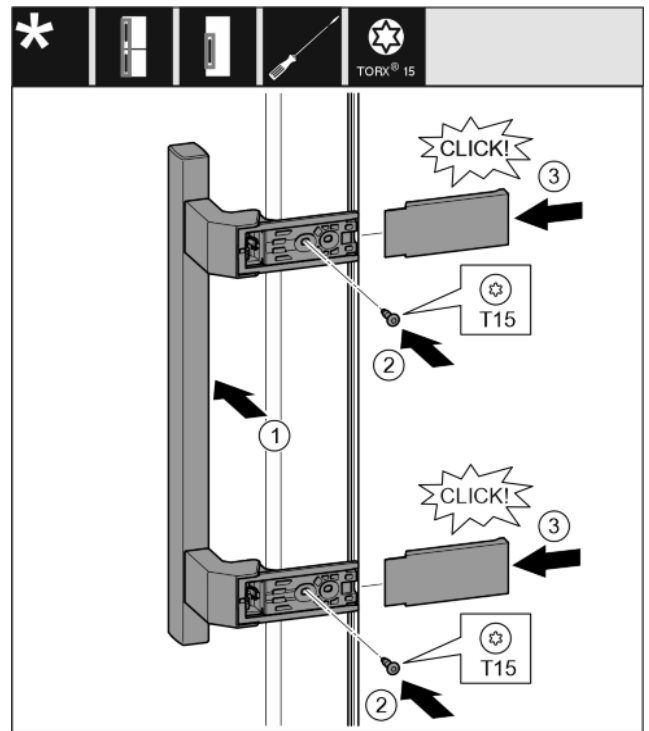

Fig. 31
- Position the handle on the other side. Fig. 31 (1)
- Tighten the screw with a T15 screwdriver. Fig. 31 (2)
- Position the covers on the side and push them on. Fig. 31 (3)